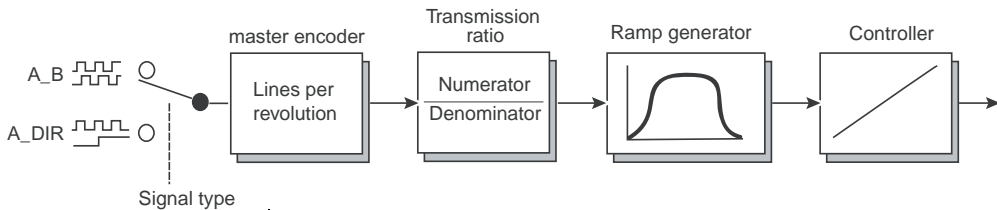

Fig. 6.24 Structure of setpoint preparation with reference encoder as speed setpoint source
For speed regulation with reference encoder setpoint source no preset solution is available. You should therefore select a preset solution, which, in any case, complies with the desired control location (e. g. terminal or field bus). Then select the setting "RDIG (4)" from the function mask "Setpoint/ramp - further settings" instead of the specified setpoint source. Fig. 6.24 shows the structure of the selected setpoint preparation.